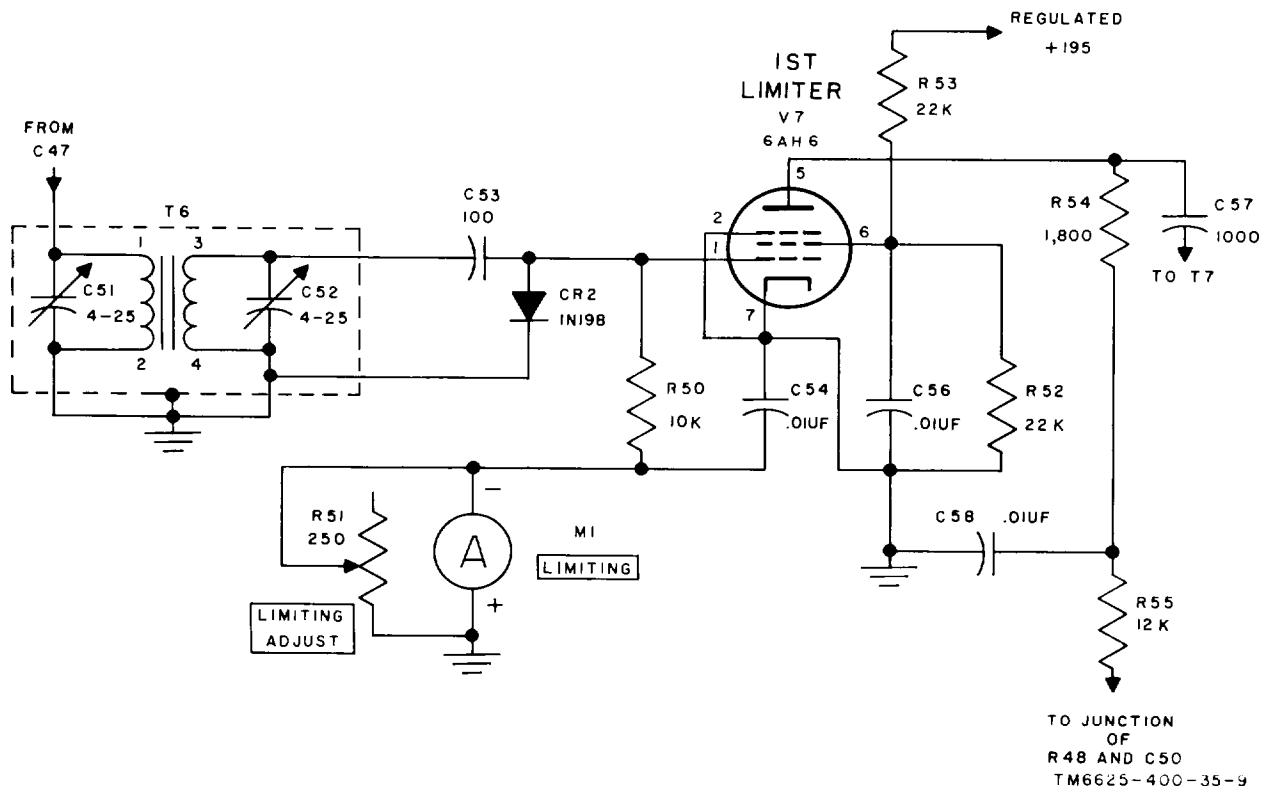

Figure 9. First limiter stage, schematic diagram.
Figures 9 and 10 are simplified schematic diagrams of the limiters. Limiting is achieved by grid limiting action in stages V7 and V8. The two stages are used to obtain the required amplitude-modulated (am.) rejection characteristics. The signals from the amplifier stages are limited and fed to driver amplifier stage V9.
a. Tube V7 (fig. 9) is the first limiter stage. Signals from V6 are coupled through T6 into the grid of V7. Capacitors C51 and C52 tune T6. The signal is coupled from T6 through C53. Crystal diode CR2 improves the rectification efficiency of the grid circuit of V7, by acting as a shunt to the cathode-to-grid path of V7. The grid return for V7 is R50, which is in series with LIMITING meter M1. LIMITING ADJ. control R51 sets the LIMITING meter to the start of the black area when the signal input level to the equipment is 5 millivolts. Capacitor C54 is the bypass for the LIMITING meter. The screen voltage of V7 is obtained from the divider comprised of R52